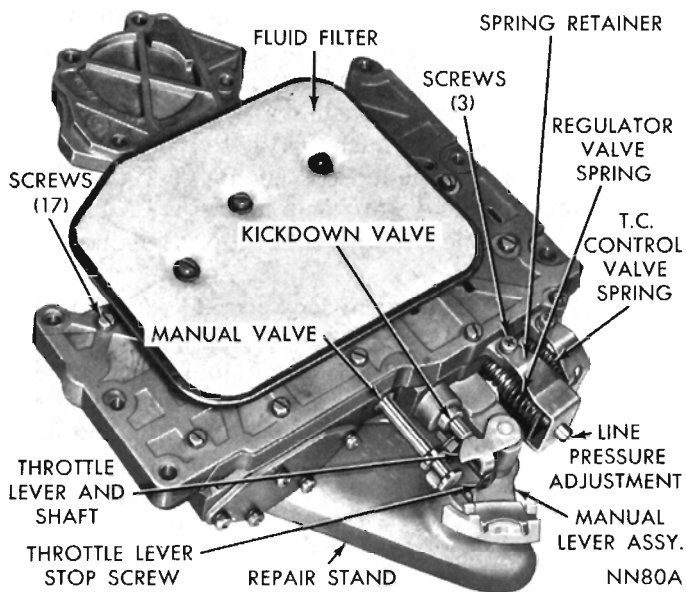

Fig. 50—Valve Body and Control Assembly
C-3749, (Fig. 50). Remove three screws from fluid filter and lift off the filter.
(2) While holding spring retainer firmly against the spring force, remove the three bracket retaining screws (Fig. 50).
(3) Remove spring retainer, torque converter control valve spring, and regulator valve spring with line pressure adjusting screw assembly. **Do not alter setting of line pressure adjusting screw and nut. The nut has an interference thread and does not turn easily on the screw.**
(4) Slide regulator valve out of valve body. Slide torque converter control valve out of valve body.
(5) Remove the transfer plate retaining screws. Carefully lift transfer plate and steel separator plate assembly off the valve body.
(6) Invert transfer plate assembly and remove the
(14) Position torque converter valve spring and regulator valve spring over ends of their respective valves. Place line pressure adjusting screw assembly on end of regulator valve spring with long dimension of nut at right angles to valve body (Fig. 50).
(15) Install spring retainer, making sure converter valve spring is engaged on the tang and position squarely in retainer. Tighten the three retaining screws to 28 inch-pounds (Fig. 50).